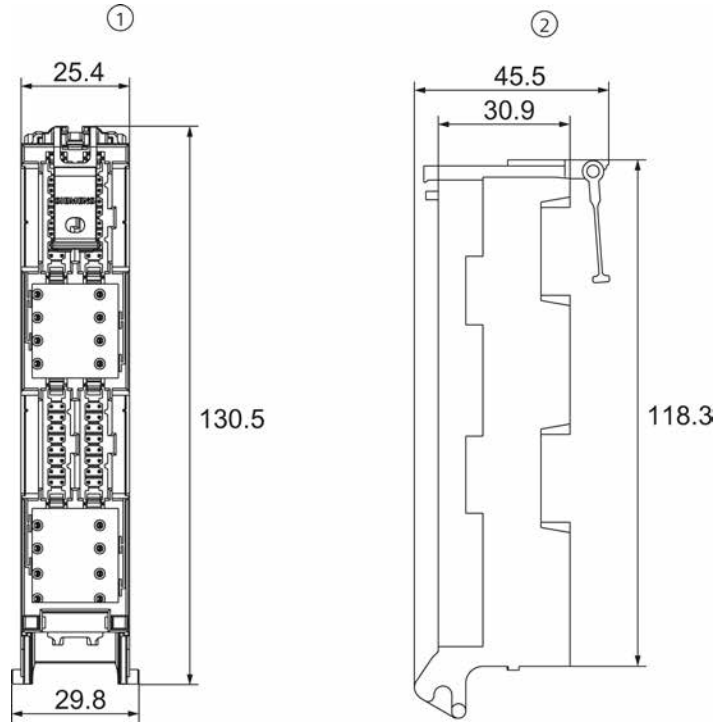

Figure A-3 6ES7921-5AK20-0AA0
- Next page: exact-model dimension drawing, original Figure A-3, Siemens page 74.